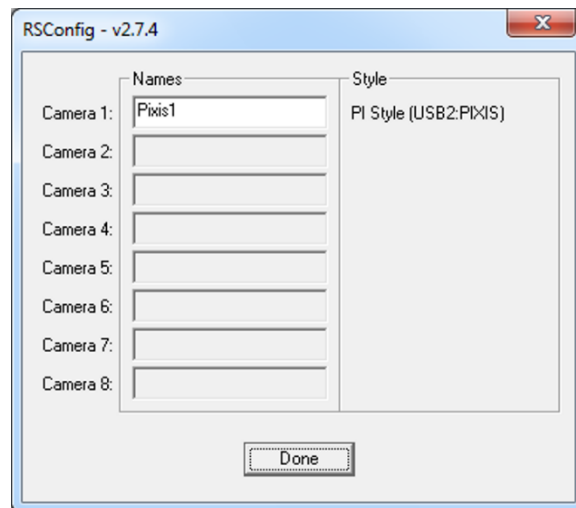

Figure 62: RSConfig Dialog Box
2. The *RSConfig* utility is shown in Figure 62 below. If your camera's drivers have been properly installed and the camera is plugged in and turned on, it will show up under the list of cameras. Feel free to keep the default name ("Camera1") or change it to something of your choosing. After you are finished choosing a name, simply click "*Done*" and your camera will be ready for use with *Synoptix*.